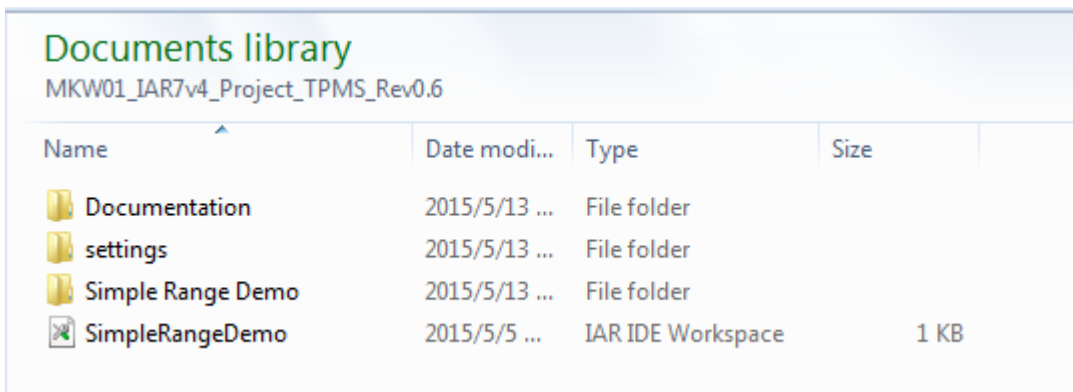

Figure 6. SimpleRangeDemo.eww location
5. Select the project (SimpleRangeDemo.eww) and click 'Open'. SimpleRangeDemo.eww is located in the folder to which the project file is extracted, for instance: <filepath>/KW01_IAR7v4_Project_TPMS_Rev0.5/SimpleRangeDemo.eww. (or other folder name chosen). See Figure 6 below.